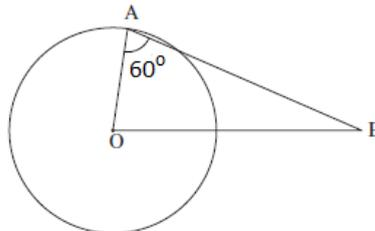

Figure Q1b: Crank mechanism.
- b) **Figure Q1b** shows a crank mechanism. Crank arm OA, of length 140 mm, rotates clockwise about O. Connecting rod AB is of length 340 mm. If angle $OAB=60^\circ$, find length OB.